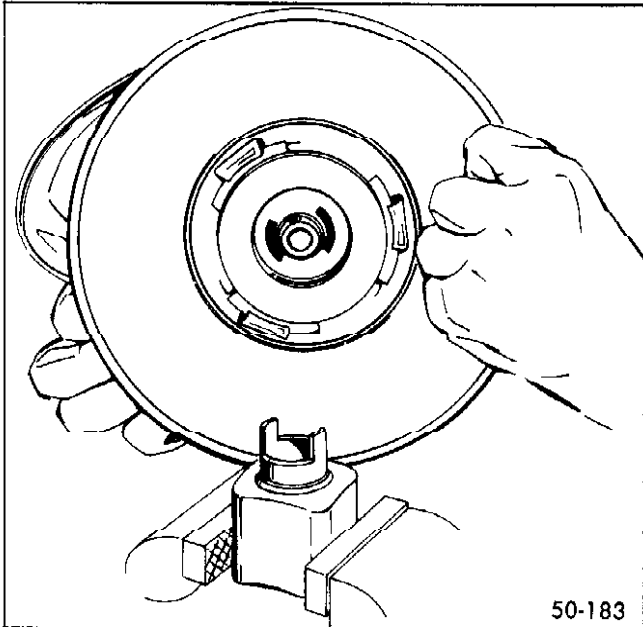

Figure 50-76 Positioning Secondary Power Piston In Tool J-23101 (Large Dia. End Up) Mounted In Vise
3. Mount double-ended tool J-23101 (*with large diameter end up*) in a vise. Position the secondary power piston so that the two radial slots in the piston fit over the ears (tang) of the tool. See Figure 50-76.